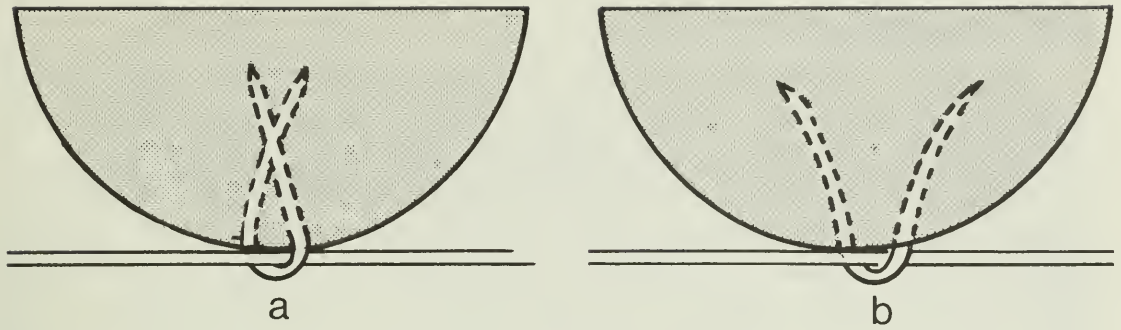
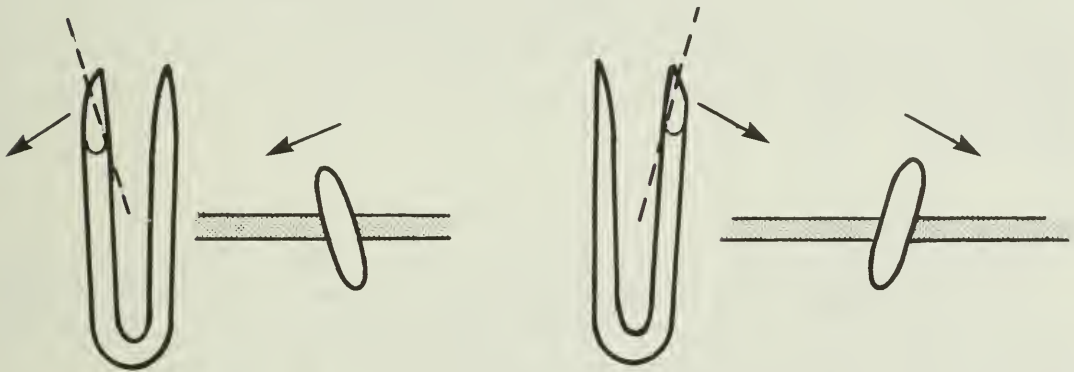

Fig. 36 Staples driven (a) incorrectly and (b) correctly.
Fig. 37 Staples rotated away from a flat surface.
3. Drive staples with slash points so their legs curve *outwards* as they penetrate the wood (Fig. 36). The slash cut acts as an asymmetrical wedge forcing the leg to curve away from the flat surface. Tests show that staples driven so that each leg curves away from the vertical centre line have 40% more pull-out resistance than staples driven incorrectly. When placing a staple over the wire against the post, rotate the staple slightly (20° off vertical) *away* from the flat surface of the point on the upper leg (Fig. 37).